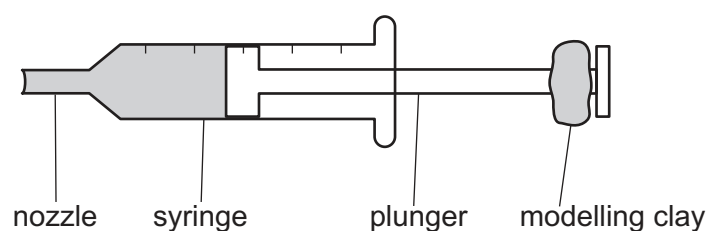

Fig. 1.1
- Step 2 You have been provided with a small piece of modelling clay. Shape the modelling clay around the end of the syringe plunger as shown in Fig. 1.1. It is important that the modelling clay is firmly attached to the plunger so that it does **not** fall off.